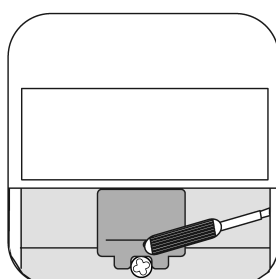

Figure 13: Dismounting the design cover series CD/LS
- Use a screwdriver to carefully remove the design cover (Figure 13).